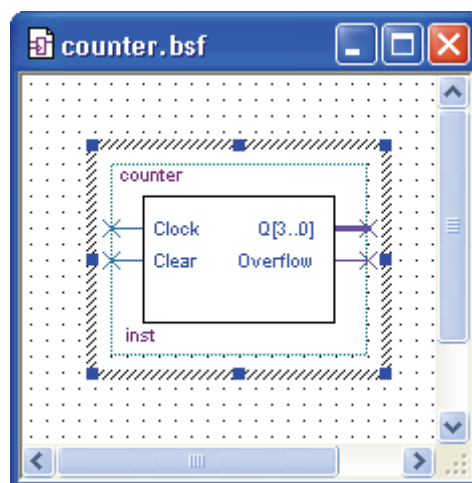

Figure B.12 Logic symbol of the counter circuit.
3. You can view and edit the logic symbol by first opening the file. Select **File | Open** and type in the filename `counter.bsf`. Click on the **Open** button. A window similar to Figure B.12 will open showing the logic symbol.